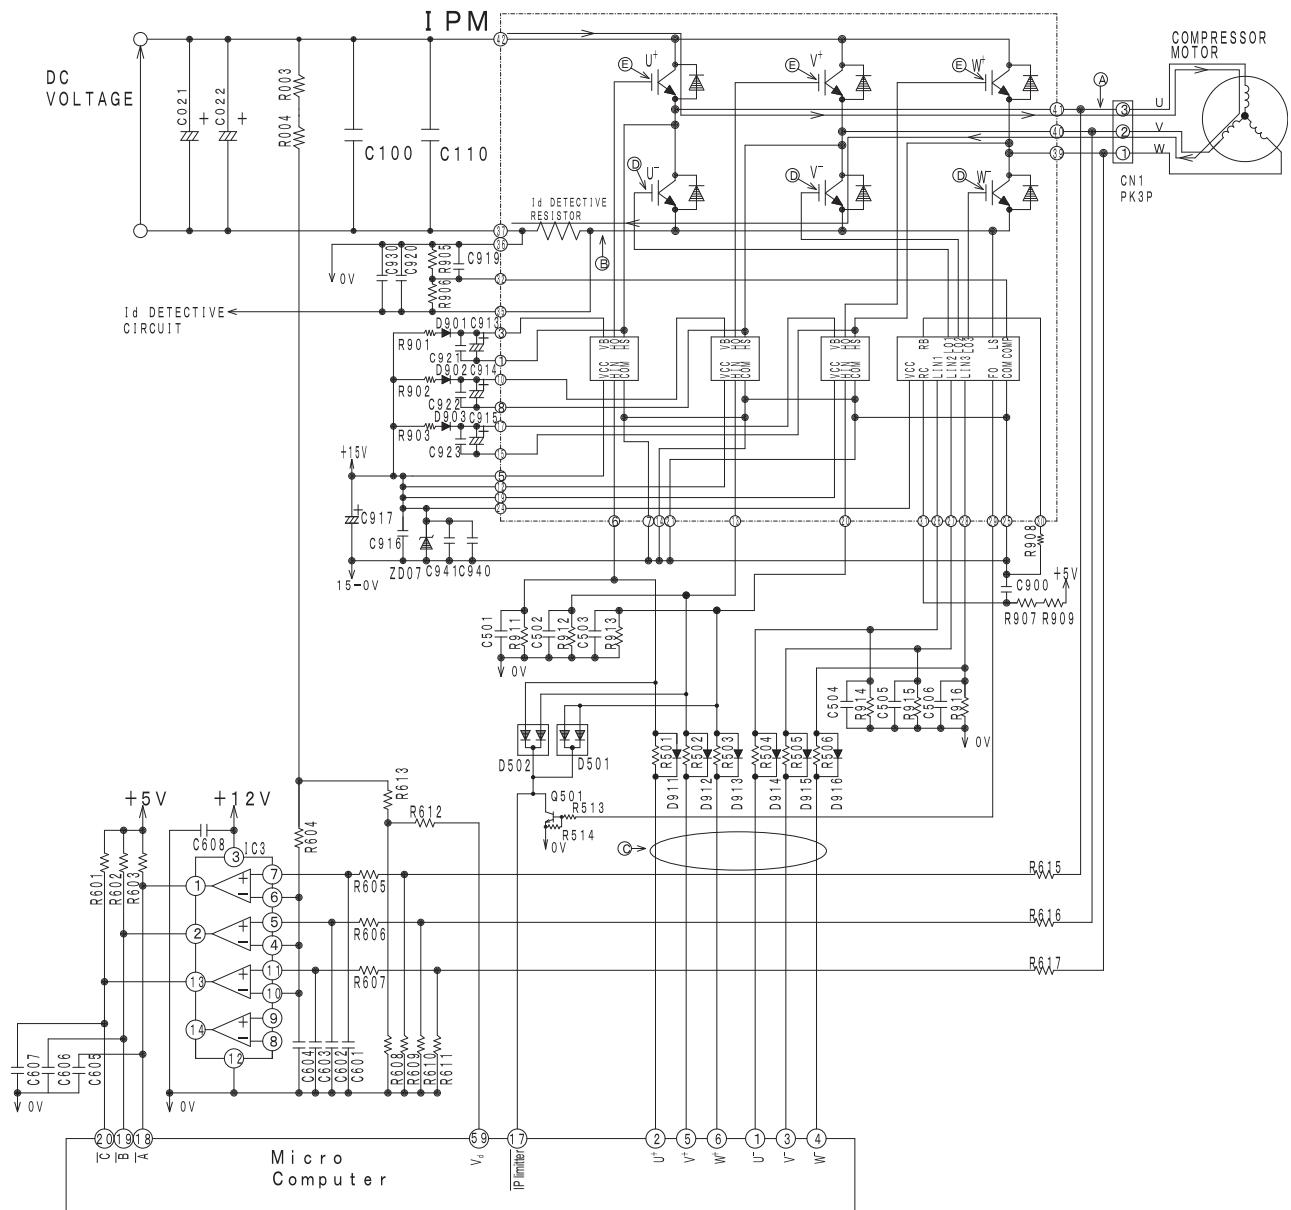

Fig. 4-1 Intelligent power module circuit ( $U^+$  is ON,  $V^-$  is ON)
- Fig.4-1 shows the intelligent power module and its peripheral circuit. The three transistors on the positive  $\oplus$  side are called the upper arm, and the three transistors on the negative  $\ominus$  side, the lower arm.